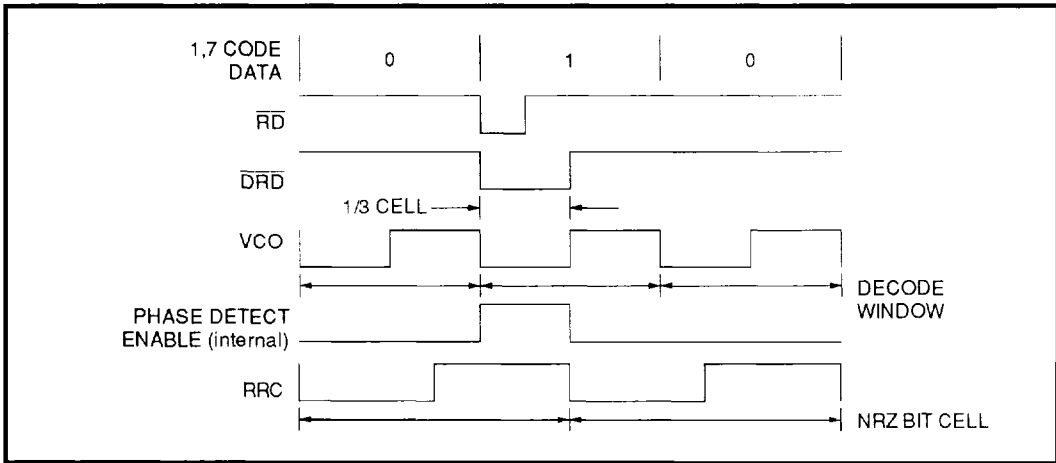

FIGURE 11: Data Synchronization Waveform
The data synchronizer utilizes a fully integrated fast acquisition PLL to accurately develop the decode window. Read gate (RG) initiates the PLL locking sequence and selects the PLL reference input; a high level (read mode) selects the internal  $\overline{DRD}$  signal and a low level selects the reference clock. In the read mode the falling edge of  $\overline{DRD}$  enables the phase detector while the rising edge is phase compared to the rising edge of the VCO reference (VCOR.) As depicted in Figure 11,  $\overline{DRD}$  is a 1/3 NRZ bit cell wide (TVCO) pulse whose leading edge is defined by the falling edge of  $\overline{RD}$ . A decode window is developed from the VCOR clock.